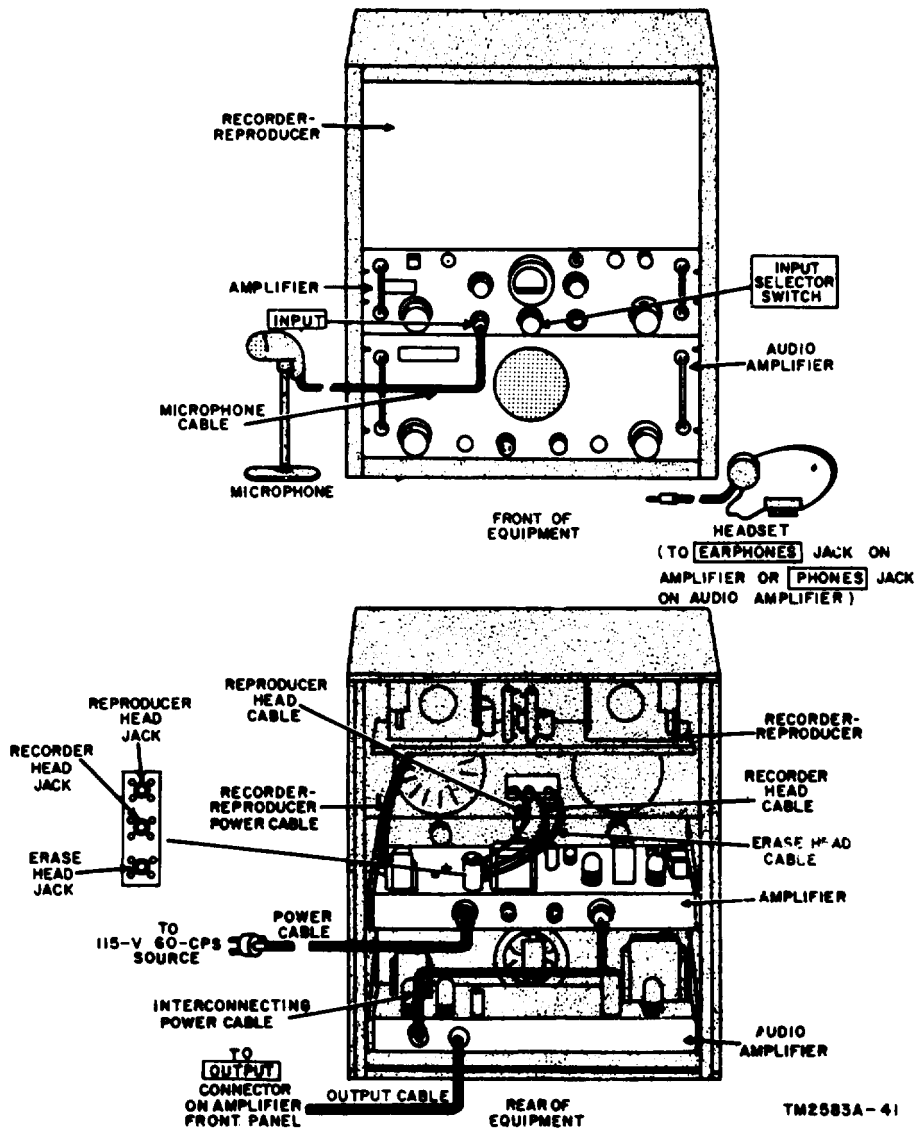
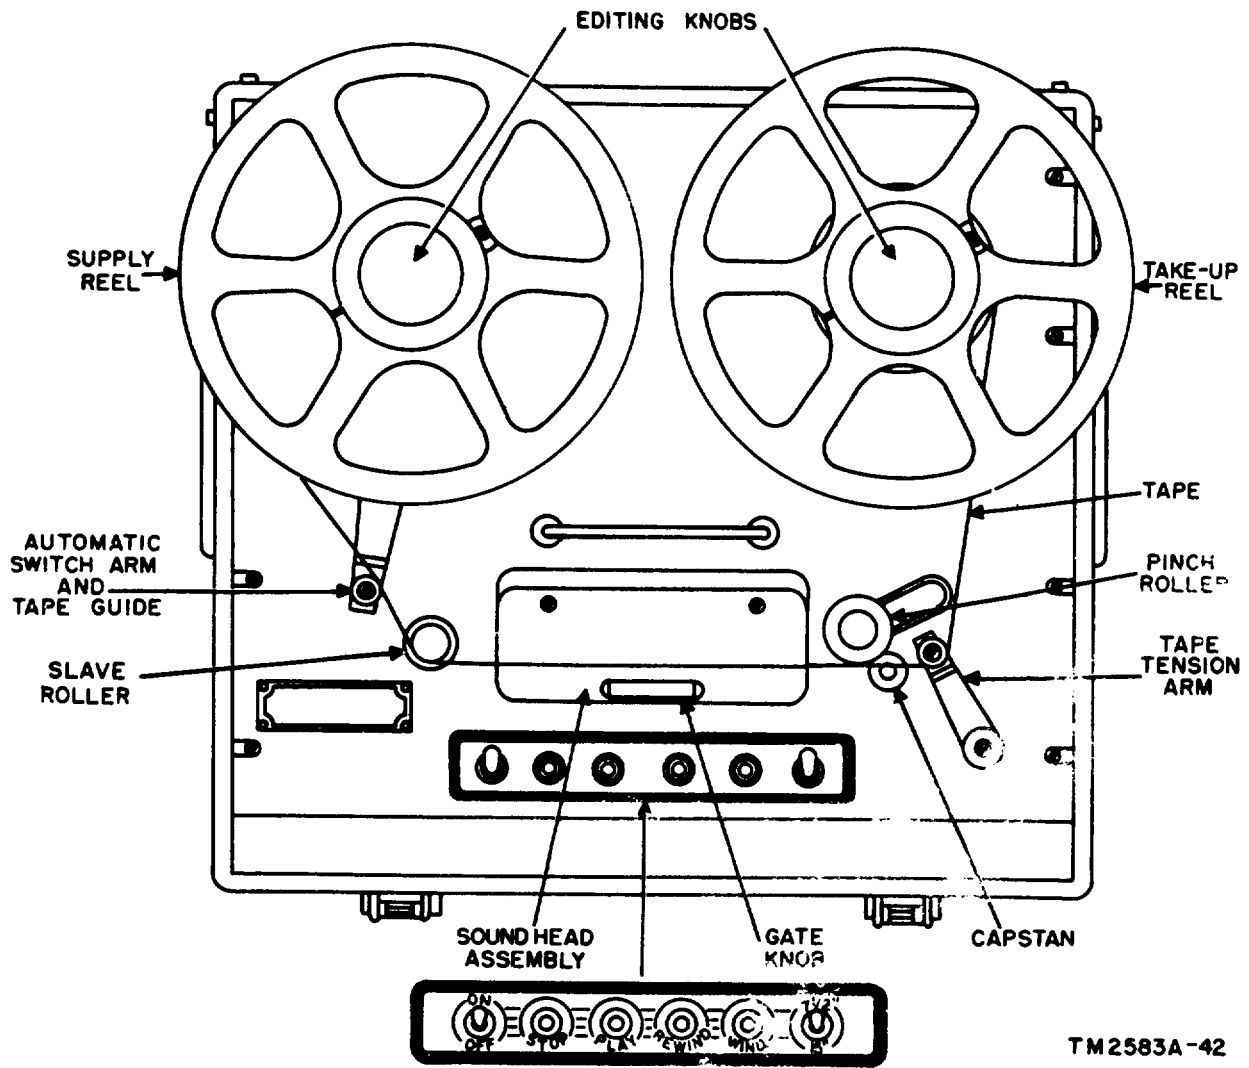

Figure 6. Interconnection diagram (rack mounting shown).
Figure 7. Tape threading diagram.
*a. General.* The recorder-reproducer set is packaged with all tubes and fuses in place, and with one end of the interconnecting power cable connected to the amplifier. The recorder-reproducer set may be rack-mounted (fig. 6) or it may be installed as a desk or table unit with the components in their respective carrying cases (fig. 1) (with the carrying cases stacked or separated). Allow enough room for operating the equipment.
- (1) Unlatch and remove the covers of both carrying cases.
- (2) Move the ON-OFF switch (fig. 7) on the recorder-reproducer to the OFF position.
*c. Setting up Equipment in Rack (fig. 6).*
- (1) To rack-mount the equipment, remove the four screws that hold the amplifier to its carrying case; remove the four screws that hold the audio amplifier to its carrying case, and remove the eight screws that hold the recorder-reproducer to its carrying case.
- (2) Lift the recorder-reproducer out of the carrying case and disconnect all cables. Identify each cable with a tag to indicate the correct connections.
- (3) Install the recorder-reproducer in a vertical position in a standard rack. Below the recorder-reproducer, install the amplifier, and below the amplifier install the audio amplifier.
- (4) Connect each cable to the proper connectors.
- b.* Turn the editing knobs (fig. 7) on the supply reel and the take-up reel spindles counterclockwise and lift the knobs off the spindles.
- c.* Insert the hub adapter (located on the spindles into the reel before mounting; do not mount the reels on the hub adapters. Mount a full reel of tape on the supply reel (left-hand) spindle, and mount an empty take-up reel on the take-up (right-hand) spindle (fig. 7).
- e.* Open the gate on the sound head assembly by pulling the gate knob (fig. 7).
- g.* Thread the tape in the path indicated in figure 7. Insert the end of the tape in one of the slots in the take-up reel. Turn the take-up reel 2 or 3 turns counterclockwise to wind the tape onto the reel and also to remove any slack in the tape.
- b.* Move the 7½ 15" switch on the recorder-reproducer (fig. 7) to the desired speed.
- h. To select the portion of tape to play, wind or rewind the tape for the desired information (par. 19 and 20). After reaching the approximate location of the desired material on the tape, use the editing knobs (fig. 7) to rotate the reels as required to reach the exact location.
*b.* Grasp the gate knob on the sound head assembly (fig. 7) and open the gate.
*c.* Press the REWIND switch. One minute is required to rewind a full 10 ½-inch reel. The equipment will shut down when the end of the tape comes off the take-up reel and frees the automatic switch arm and tape guide (fig. 7).
*d.* If a full tape rewind is not necessary, press the STOP switch and close the gate on the soundhead after rewinding the tape to the approximate location; use the editing knobs (fig. 7) to find the desired recording. Recording or reproducing is not possible unless the gate is closed.
*a.* Grasp the gate knob on the soundhead assembly (fig. 7), and open the gate.